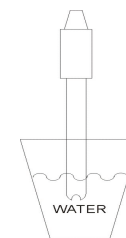

FIG. 1-2
- 4.3 Wash the pH electrode in freshwater. FIG.1-2.